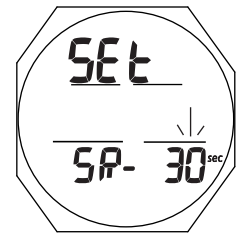

Fig. 54 - SET SAMPLING RATE
**Set Sampling Rate (SR)**, information includes (Fig. 54):